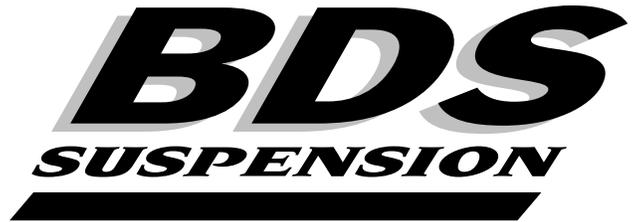

FIG. 13
70. Attach the brake junction block to the relocation bracket on differential with 5/16" x 1" bolt, nut and 5/16" USS washers from bolt pack #545 (Fig 13). **Note:** If more brake line slack is needed, the OE brake line bracket at the frame can be disconnected and relocated.